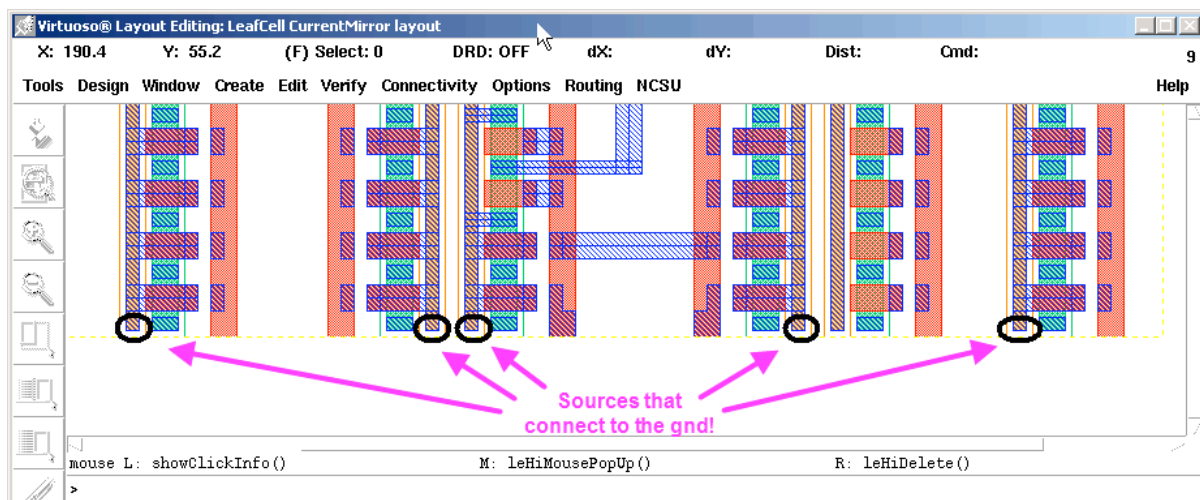
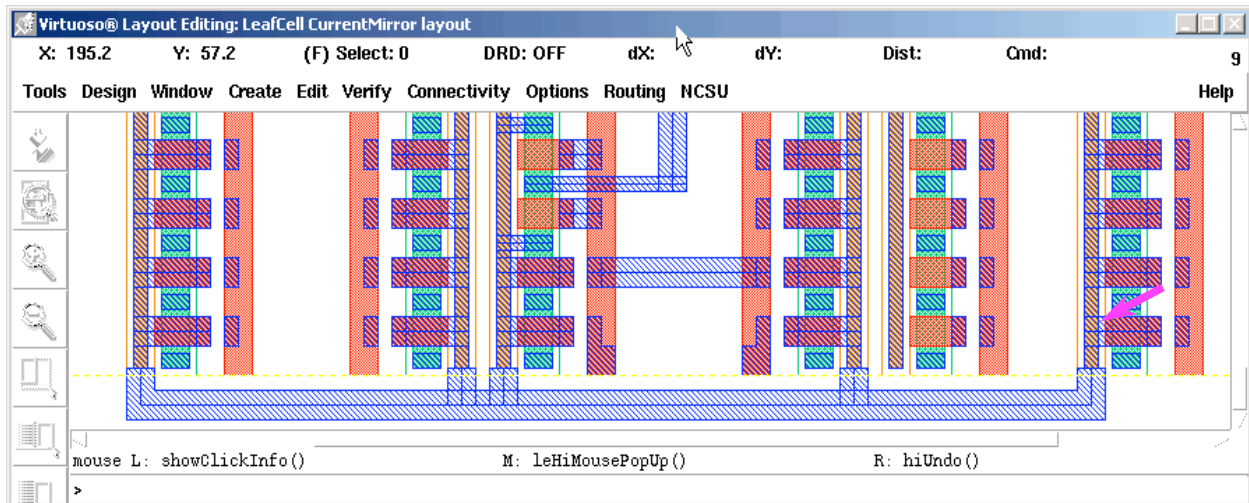

Figure 80: Zooming into the sources needed to be connected to gnd.
Figure 81: Wiring the *gnd* net and label it “gnd!”
21. Zoom to the bottom of the source of the transistors as shown in Figure 80. Connect them together and label them *gnd* as well as in Figure 81.